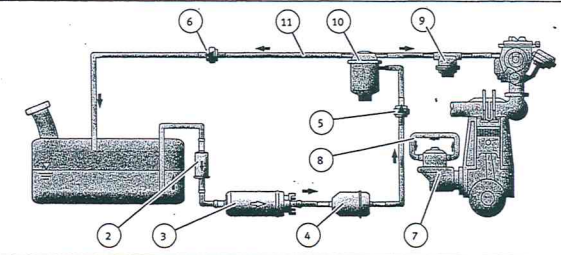

Abb. 3/ Fig. 3/ Puc. 3/图3
- As a replacement for a mechanical fuel pump (vintage/classic cars) (Fig. 3)
Example: Replacement for a mechanical fuel pump (Fig. 3)